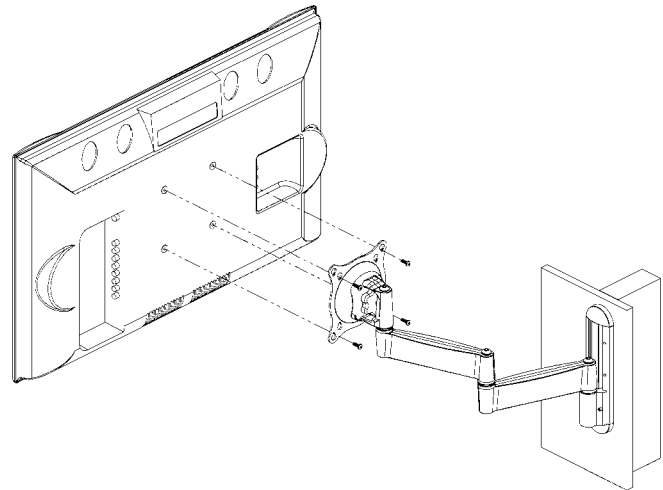

Figure 5. Flush Mounting
- C. Start two M4 X 12mm Phillips pan head screws in the top mounting holes of your display (see Figure 5).